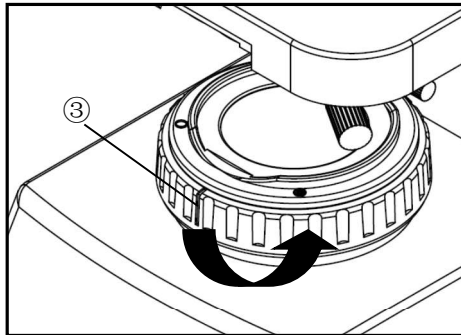

Fig.22
3.2.7 Adjustment of Field Stop (Fig.22)